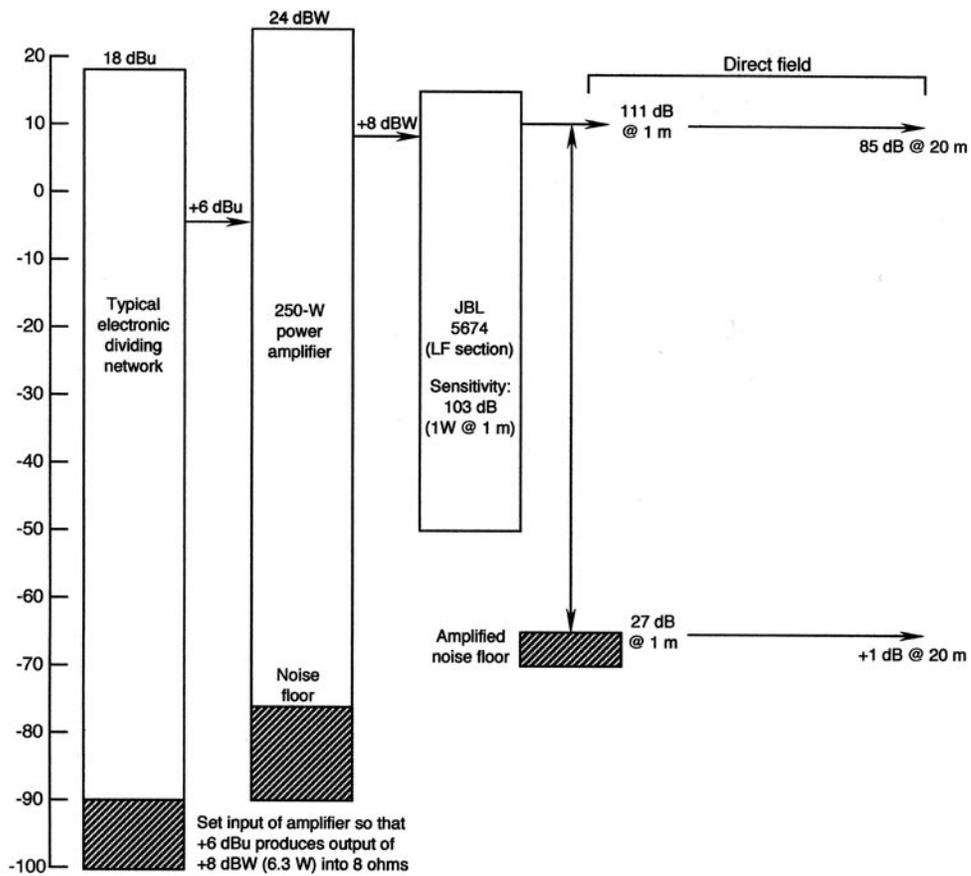

Figure 39: Level diagram for 5674 (LF section).
3. Set up a gain-loss diagram for the system prior to making any adjustments on the system. An example is given in Figure 39. Here we have shown the gain structure for the model 5674. We show here only the LF system section at full output; the MF and HF, sections operate at lower power amplifier levels so that the individual acoustical outputs of LF, MF, and HF sections will all be proportional.